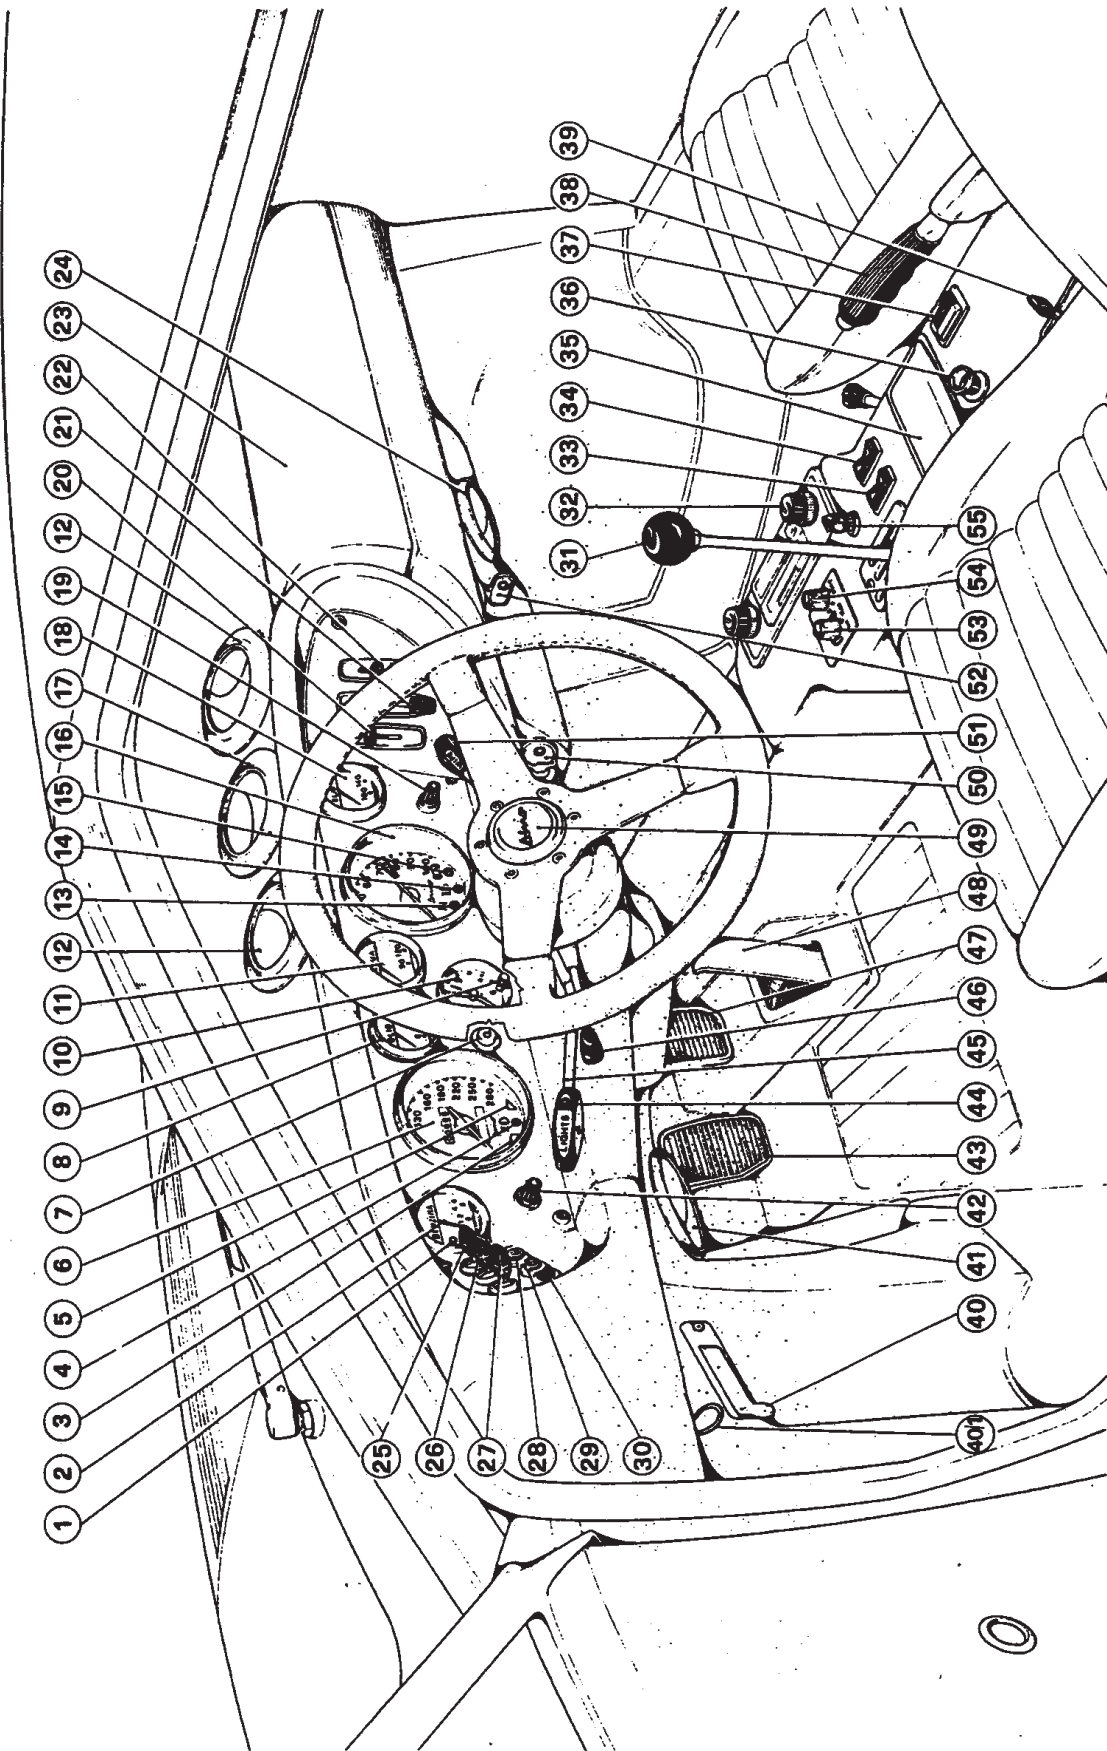

Fig. 1 - INSTRUMENTS AND CONTROLS.
- 0 : Locked (locked steering and removable key). The lights may be switched on by turning the knob 44 on the control lever 45 and moving the lever in one of the three positions. (Fig. 1).